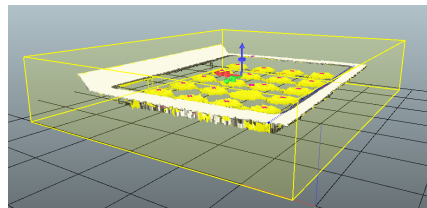

Figure 37: Region of interest for **Shape** tool
6. Move and resize the region of interest for the **Shape** tool to cover the chocolate box. Leave some extra space between the object and the region borders. See figure 37.